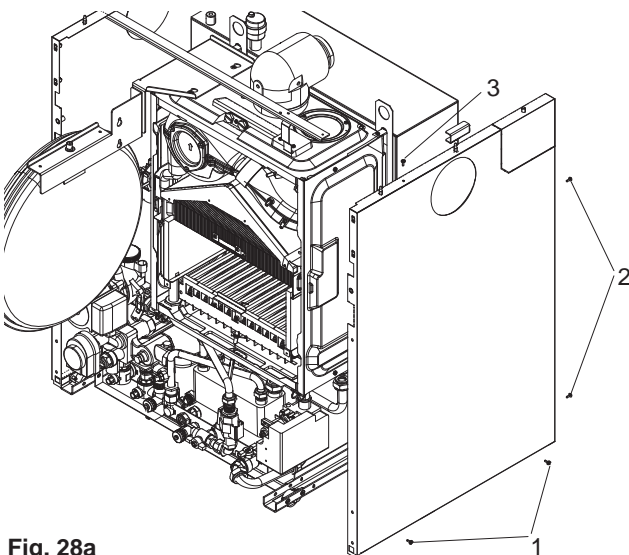

Fig. 28a
8.7.5 Identify and remove the 5 screws that fasten the right side panel: 2 at the bottom (1), 2 at the rear (2), and one at the top of the panel (3). The right side panel can now be removed from the boiler (see fig. 28a).